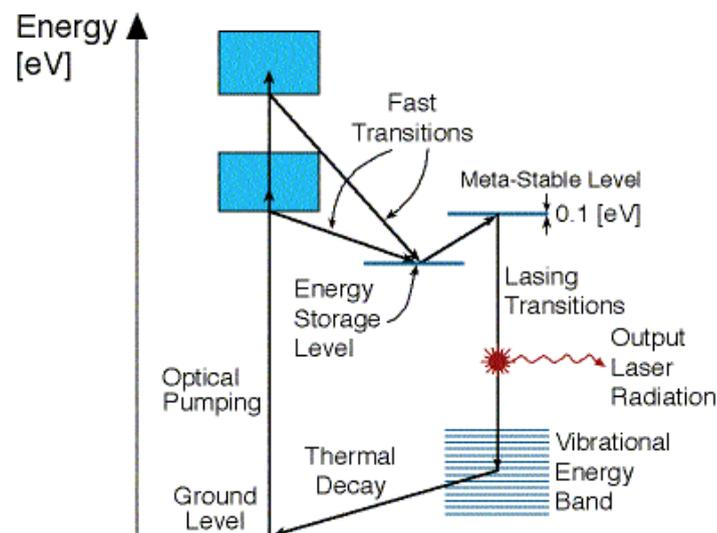

Figure 5.14: Energy Level Diagram of Alexandrite Laser.
**Alexandrite laser** is a solid state laser in which Chromium ions ( $\text{Cr}^{3+}$ ), at the amount of 0.01-0.4 %, are embedded in  **$\text{BeAl}_2\text{O}_4$  crystal**. It has energy level structure similar to the energy level structure of Ruby laser. **Alexandrite laser was operated for the first time as a three level laser in 1973 at a wavelength of 680 [nm]**. A few years later, it was found that at longer wavelengths the Alexandrite laser can be operated as a **four level laser**, which can be **tune over a range of wavelengths: 720-800 [nm]**. It was the **first tunable solid state laser to reach the market**. An energy level diagram which explain the tunability can be seen in figure 5.14.